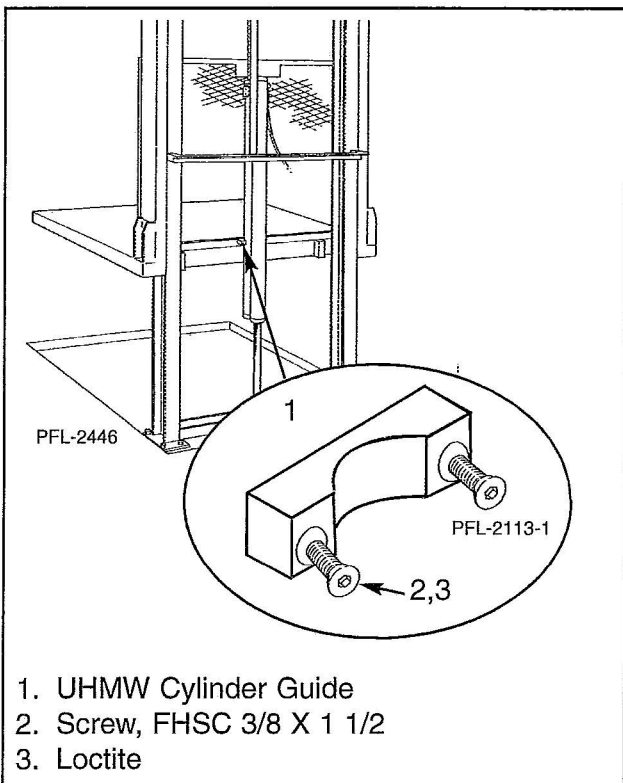

Figure 10
6. Attach the UHMW cylinder guide to the lower backside of the carriage using 3/8" bolts, lockwashers, and flat washers. See Figure 10.